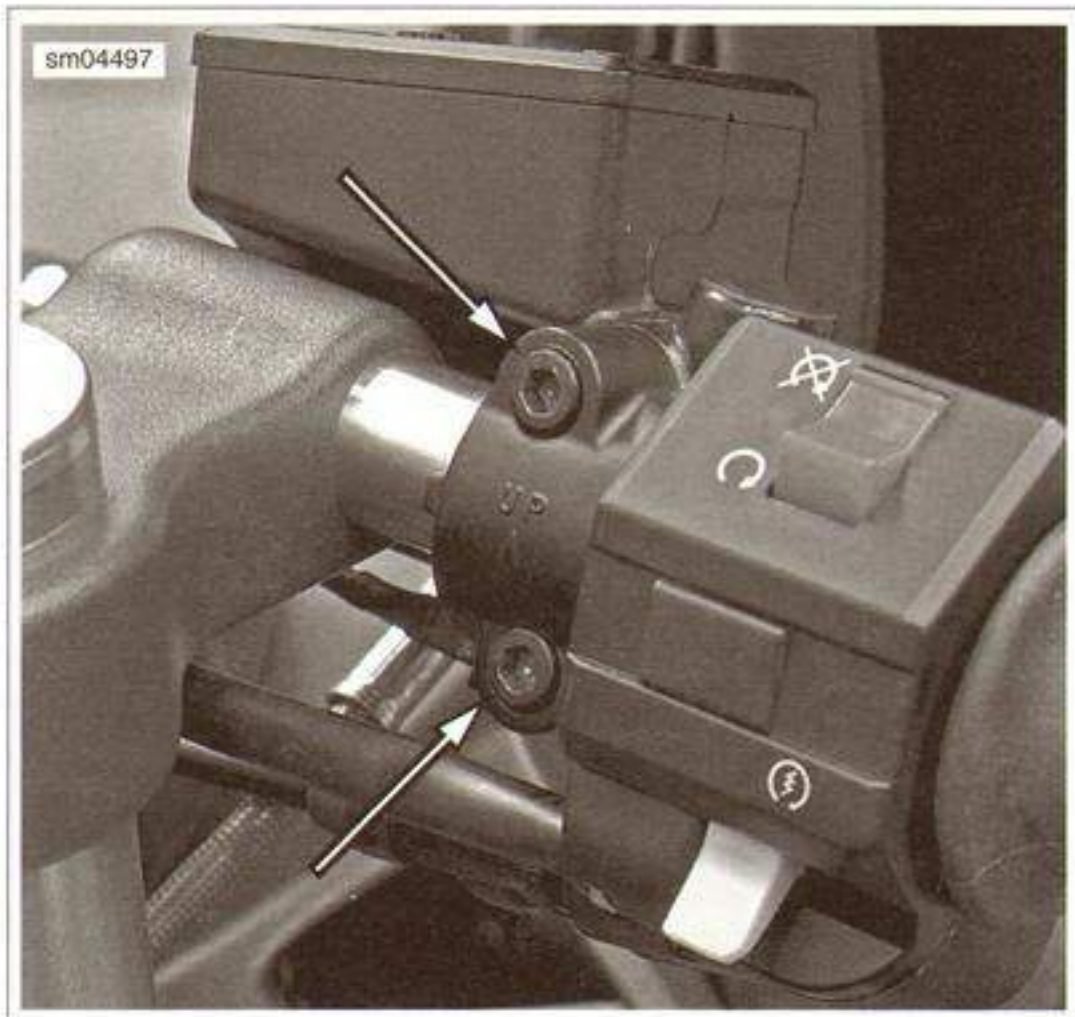

Figure 2-141. Master Cylinder/Reservoir Clamp
2. See Figure 2-141. Remove the two fasteners and the front brake master cylinder/reservoir and lever assembly.